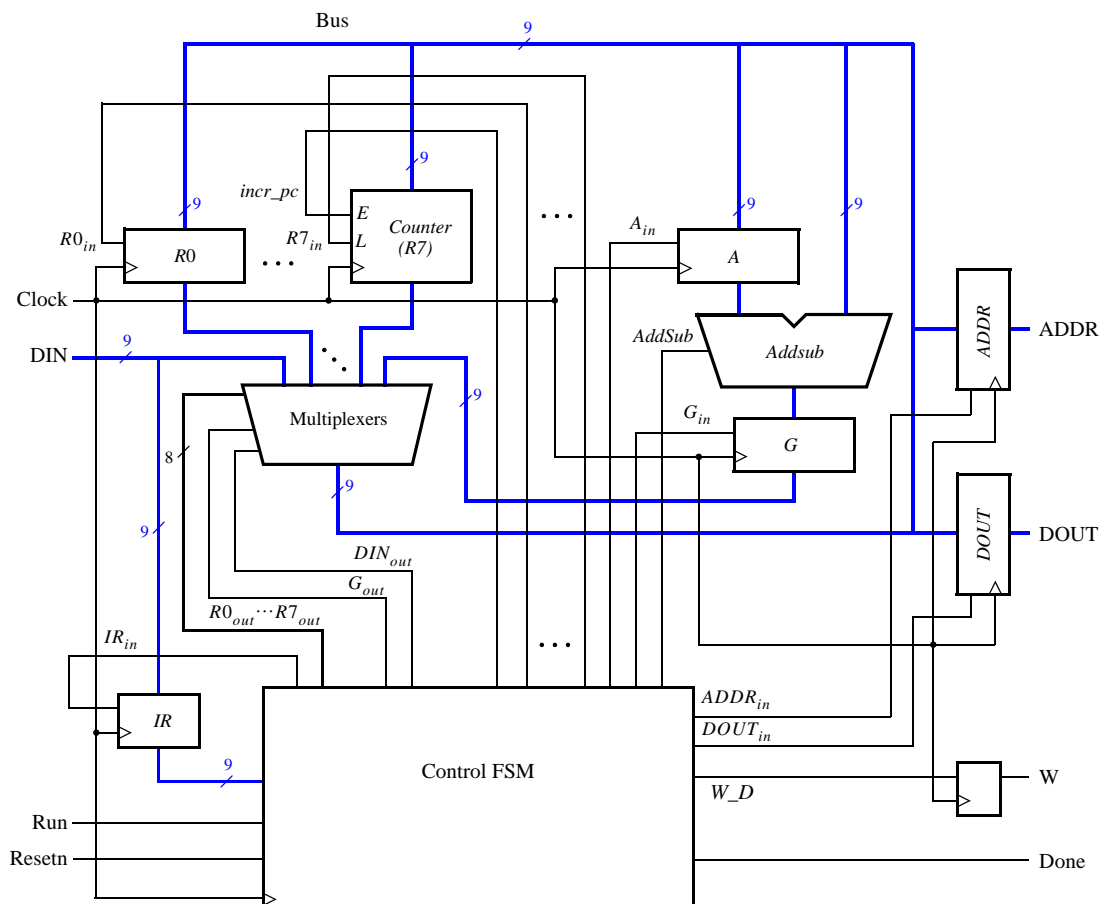

Figure 7. An enhanced version of the processor.
A schematic of the enhanced processor is given in Figure 7. In this figure, registers R_0 to R_6 are the same as in Figure 1 of Laboratory Exercise 9, but register R_7 has been changed to a counter. This counter is used to provide the addresses in the memory from which the processor's instructions are read; in the preceding lab exercise, a counter external to the processor was used for this purpose. We will refer to R_7 as the processor's *program counter* (PC), because this terminology is common for real processors available in the industry. When the processor is reset, PC is set to address 0. At the start of each instruction (in time step 0) the contents of PC are used as an address to read an instruction from the memory. The instruction is stored in IR and the PC is automatically incremented to point to the next instruction (in the case of **mvi** the PC provides the address of the immediate data and is then incremented again).
Figure 7 shows two registers in the processor that are used for data transfers. The *ADDR* register is used to send addresses to an external device, such as a memory module, and the *DOUT* register is used by the processor to provide data that can be stored outside the processor. One use of the *ADDR* register is for reading, or *fetching*, instructions from memory; when the processor wants to fetch an instruction, the contents of *PC* (*R7*) are transferred across the bus and loaded into *ADDR*. This address is provided to memory. In addition to fetching instructions, the processor can read data at any address by using the *ADDR* register. Both data and instructions are read into the processor on the *DIN* input port. The processor can write data for storage at an external address by placing this address into the *ADDR* register, placing the data to be stored into its *DOUT* register, and asserting the output of the *W* (write) flip-flop to 1.